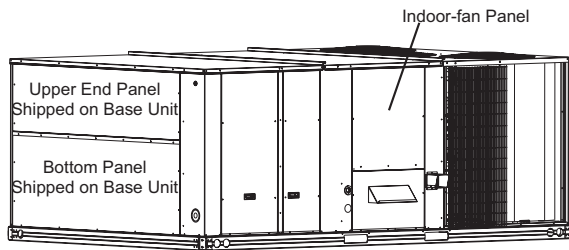

Fig. 1 - Upper and Bottom Panel on End of Unit
- Remove the upper-end panel shipped on the HVAC unit. (See Fig. 1.) The return air chamber of the unit will be exposed. Save the screws for later use. The upper-end panel can be discarded. The bottom panel remains in its shipping position.